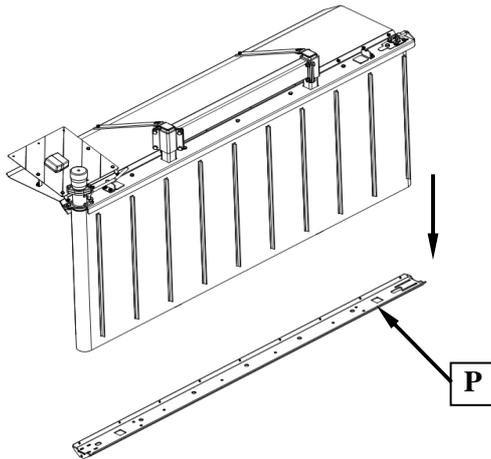
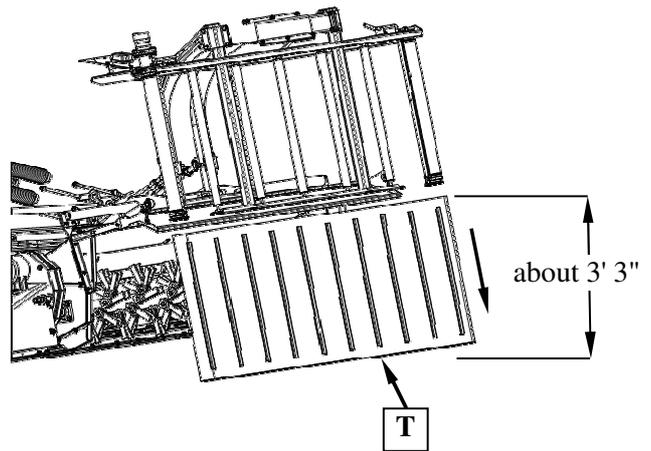

Fig. 45
Fig. 46
2. Dismount front belt in lower part of the conveyor **P** (Fig. 45). Slide belt **T** down (Fig. 46).